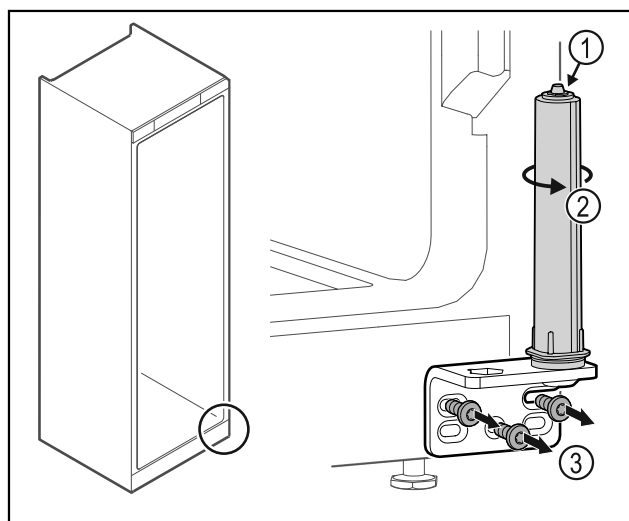

Fig. 22
► Do not disassemble the door closing system Fig. 22 (1).
- Turn the closing system Fig. 22 (2) until it clicks.
- Unscrew the hinge Fig. 22 (3).